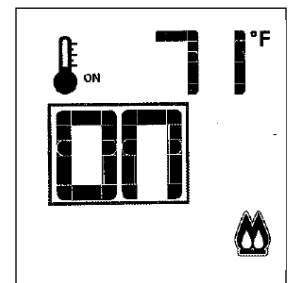

Figure 63. Split Flame.
- The Auxiliary Burner (front flames) is activated by using the Mode Key to index to the Split Flow icon. Press the Up Arrow Key to turn it ON. Fig. 63. Press the Down Arrow Key to turn it OFF. A single “beep” will confirm reception of the command.